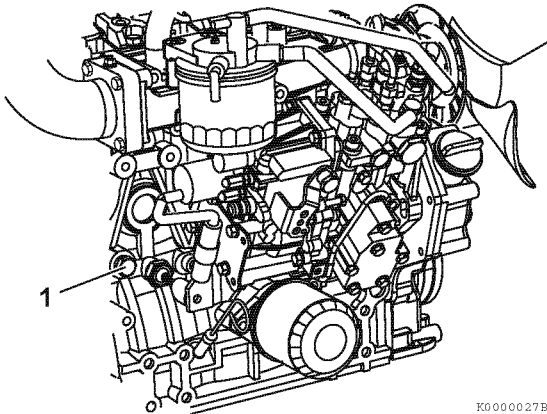

Figure 5-19
- On models not equipped with an oil cooler, remove the coolant drain plug (Figure 5-19, (1)) from the engine block.